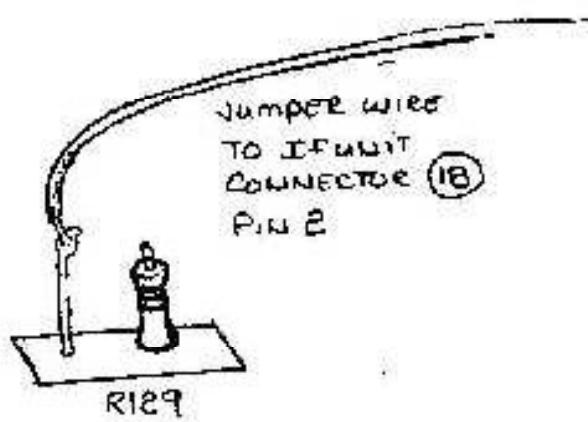

FIGURE 5
14. Solder a jumper wire to the metal lead of resistor R129, as shown in figure 5. Connect the other end to IF Unit connector 18 pin 2 from the foil side of the board as shown in figure 4. The wire may be conveniently routed between the circuit board and the chassis.